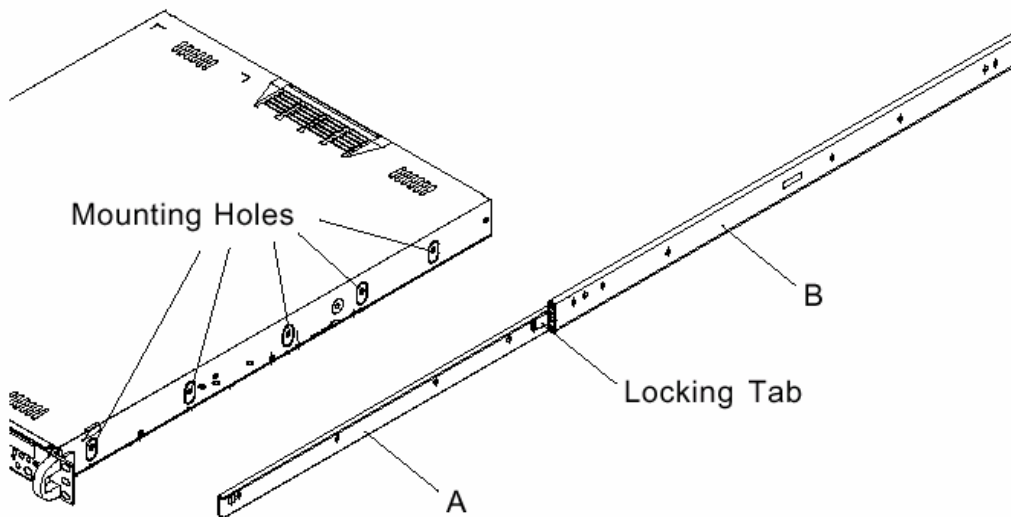

Figure 6: Identifying the Sections of the Rack Rails
You should have received two rack rail assemblies with the SX120 Server. Each of these assemblies consists of two sections: an inner fixed chassis rail that secures to the server (A) and an outer fixed rack rail that secures directly to the rack itself (B). A sliding rail guide sandwiched between the two should remain attached to the fixed rack rail. (See below Figure 6). The A and B rails must be detached from each other to install.